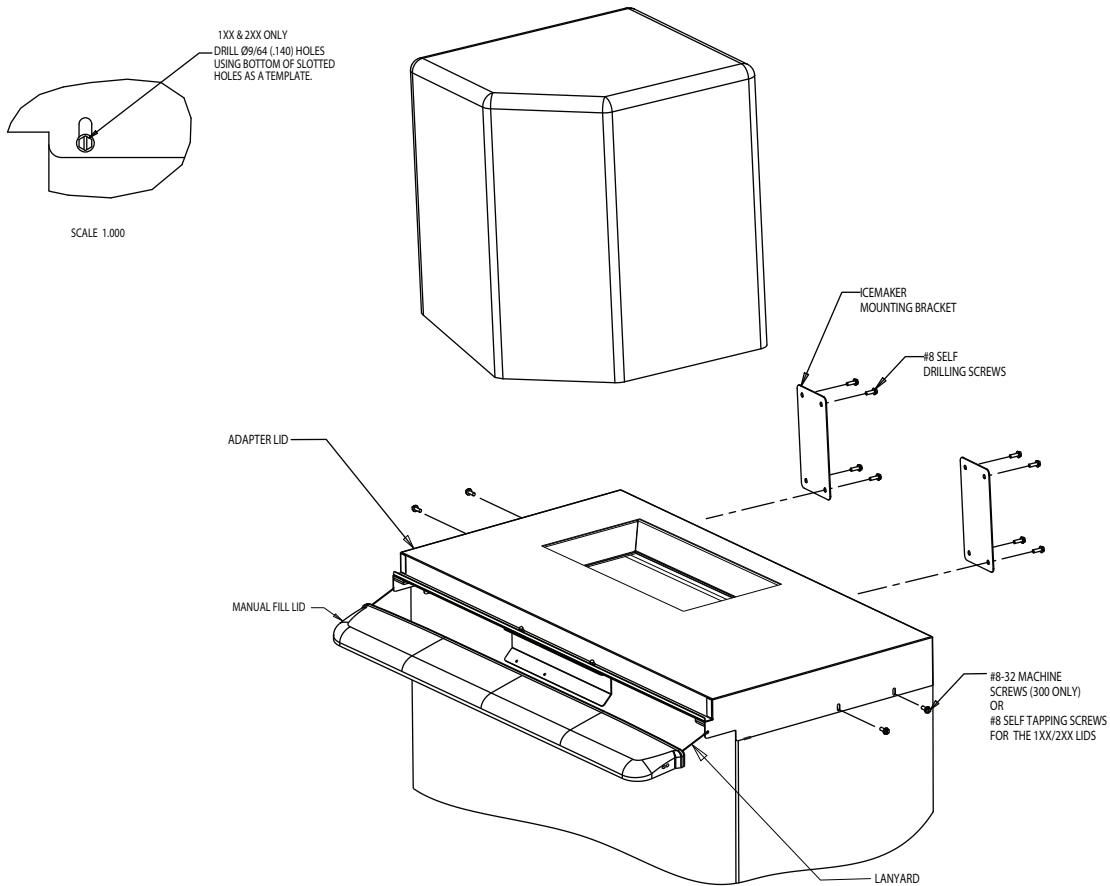

Figure 2. Dispenser Assembly
5. Set and secure adapter lid onto the dispenser, as shown in Figure 2.